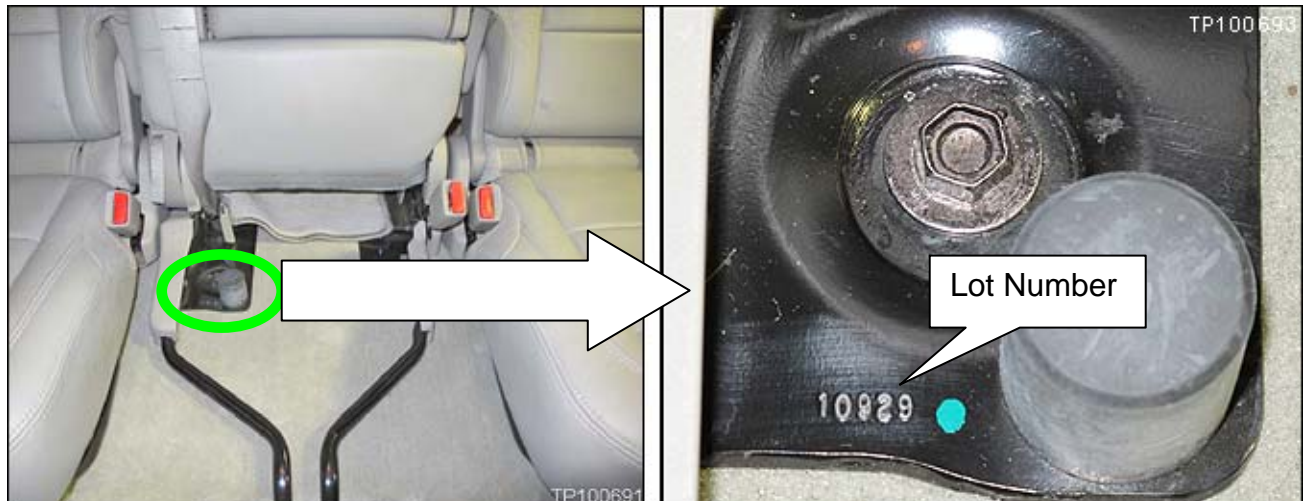

Figure 1
1. Fold the 2nd row center seat cushion forward (see Figure 1).
2. Locate the Lot Number (see Figure 1).